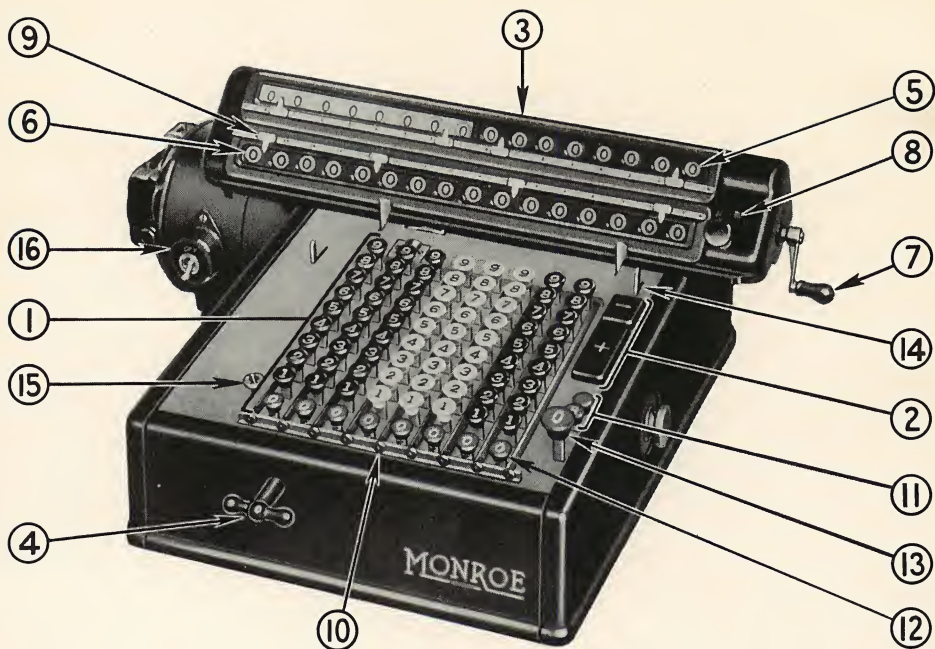

Figure 1
It may best be described briefly in a manner for easy understanding by mentioning its three principal parts—a standard keyboard (1 in Fig. 1) for setting up the numbers to be added, subtracted, multiplied or divided; the plus and minus bars (2), or crank in hand model, at the right of the keyboard for performing the operations; and the carriage (3) at the top of the machine holding the dials which register the results and proofs of the various operations as they are performed.